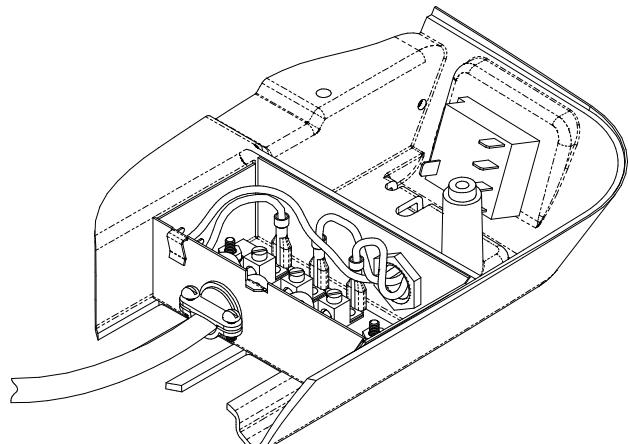

FIGURE 8
- E. Insert the supply wiring through the cable clamp and into the field wiring box so that 4 – 6" of supply conductor is inside the box. Secure the cable clamp over the supply wire sheath so that no movement is possible (See Figure 8).
- F. Strip individual wire lead ends back 19mm. Connect the supply power conductors to the "A" and "N" lugs on the terminal board. IMPORTANT – If power is from one "Hot" and one "Neutral" conductor, connect the neutral to "N". Connect the ground wire to the "E" lug on the terminal board (See Figure 8).